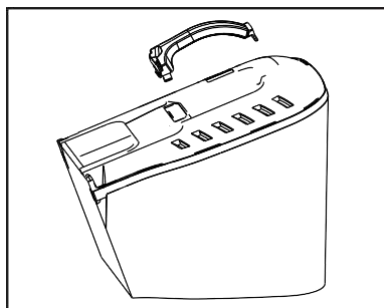

Fig. 4
1. Insert the grass collection bag handle into the holes on the top of grass collection bag until it clicks in (See Fig. 4).